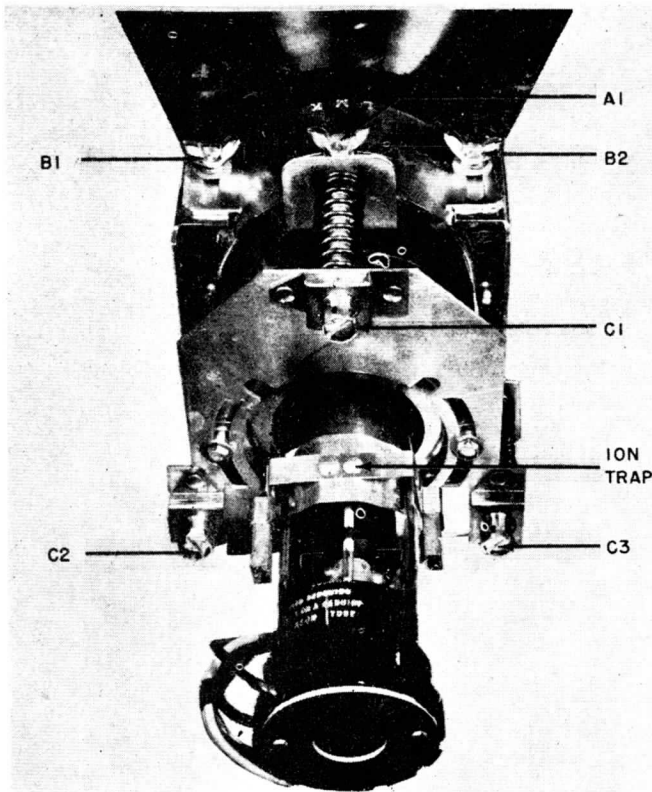

Figure 5-1—Deflection Yoke and Focus Coil Adjustments, Combined Mechanical and Electrical Centering
4. **MECHANICAL DEFLECTION ADJUSTMENTS** — See figure 5-1. Replacement of the kinescope or of any of the components of the deflection system will require readjustment of the deflection yoke assembly, focus coil, and ion trap.